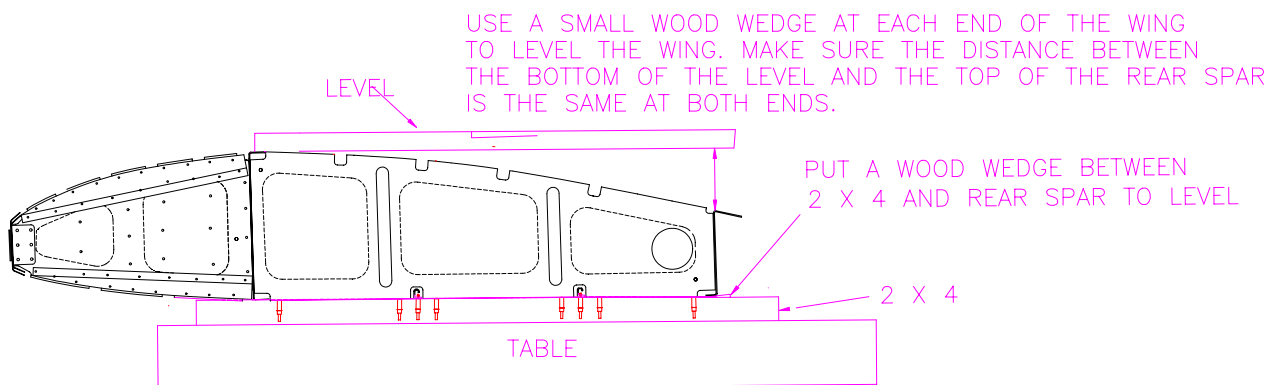

Figure 8.16.6
- 13) Turn the wing over and level again as in Figure 8.16.6.